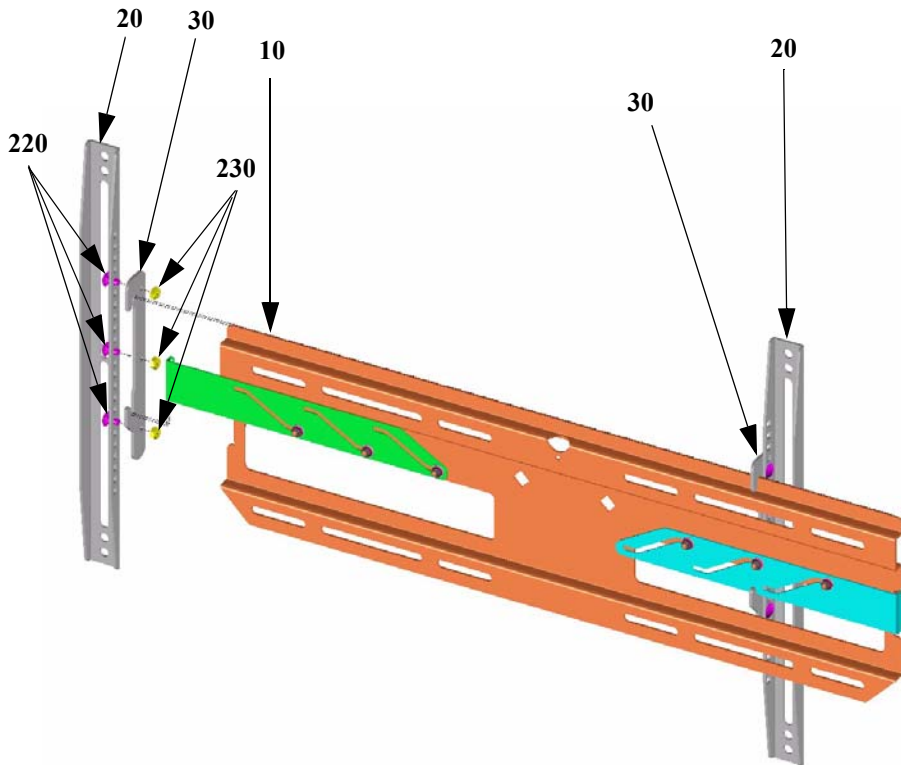

Figure 1. Parts
- Carefully inspect the mount for shipping damage (see Figure 1). If any damage is apparent, call your carrier claims agent and do not continue with the installation until the carrier has reviewed the damage.